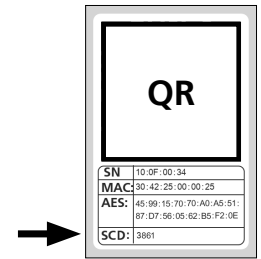

Fig. 8
**!** **Attention:** The set comes with two QR code stickers, one for the cylinder and one for the keypad. The QR code required here for the keypad can be identified by the security code at the bottom of the sticker, marked "SCD" (Figure "QR code sticker keypad" in Fig. 8).